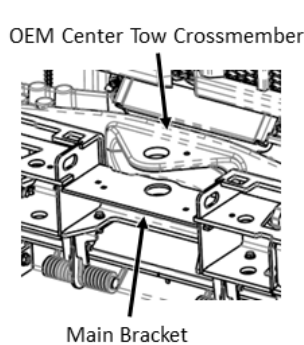

Figure 2g: Main Bracket
6. Lift the Main Bracket and Truck Guard (opened) assembly and mount it to the truck's Crossmember; see Figure 2g. Fasten the Main Bracket to the HERD Side and Center Submounts using the provided 1/2" Hardware with 1/4" Thick Washers as shown in Figure 2f. **Torque the M10 Hardware to 48 ft-lb; torque the 1/2" Hardware to 96 ft-lb.**